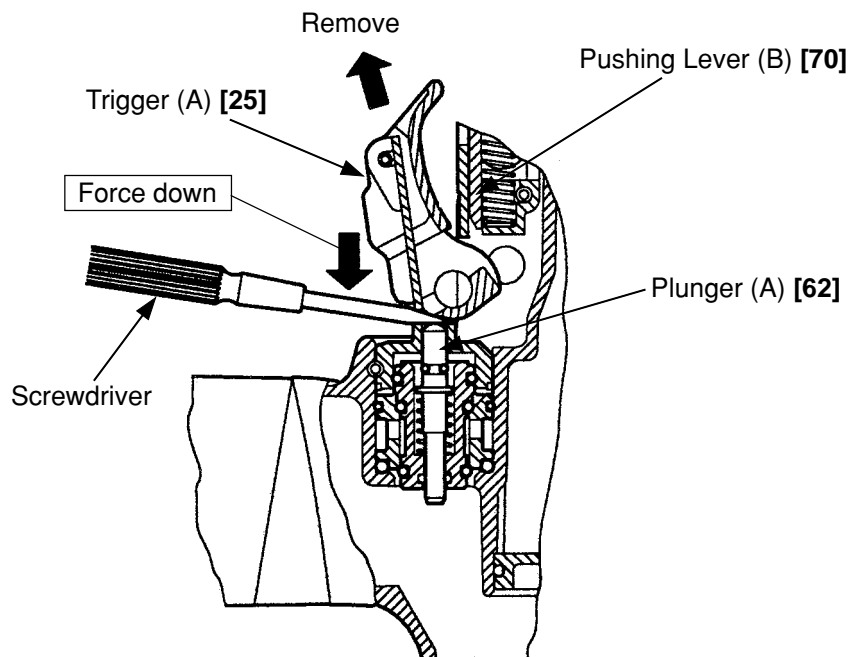

Fig. 13
- Remove the Retaining Ring (E-Type) for D6 Shaft [22] with the blade of a screwdriver and remove the Trigger Pin [54], and Trigger (A) [25] can be removed.
- To remove Trigger (A) [25] together with the driving section (Pushing Lever (B) [70], the Nose [36], etc.), remove Trigger (A) [25] while forcing down Plunger (A) [62] with the blade of a screwdriver, as shown in Fig. 13.